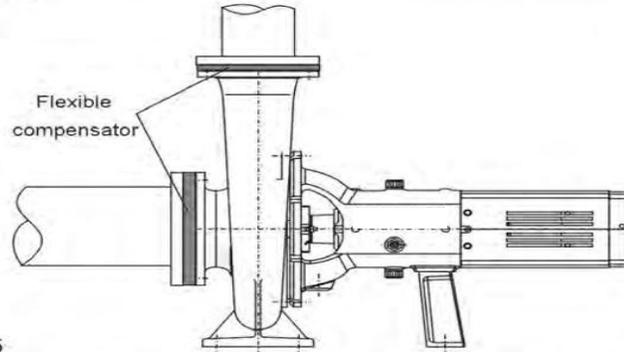

Fig. 15
- To prevent the transfer of vibrations between pump and pipe, compensators should be used to connect in-and outlet pipe to the pump.(Fig.15)